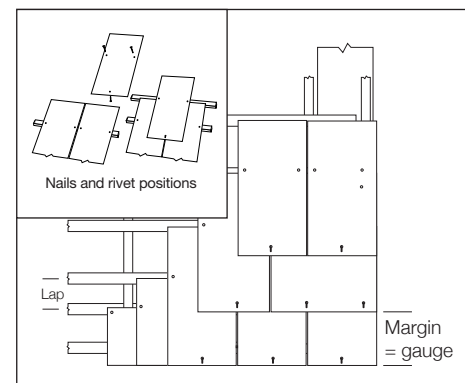

Fig. 6 – Continue laying broken bond
5. Each full size slate is now fixed with two nails firmly into the slate batten and a rivet placed between the edges of the two lower slates (Fig. 6 inset).
7. Continue across and up the roof with whole slates, trimming to verges, hips, valley and ridges as necessary (Fig. 6).